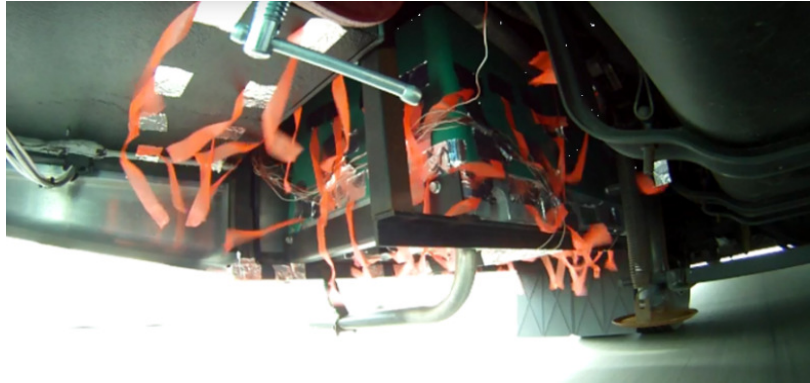

Figure 2
- C. A method to see how the air is flowing underneath the generator is to tape some yarn, dental floss, or marker flags (shown below) in various locations underneath the generator. See Figure 2.